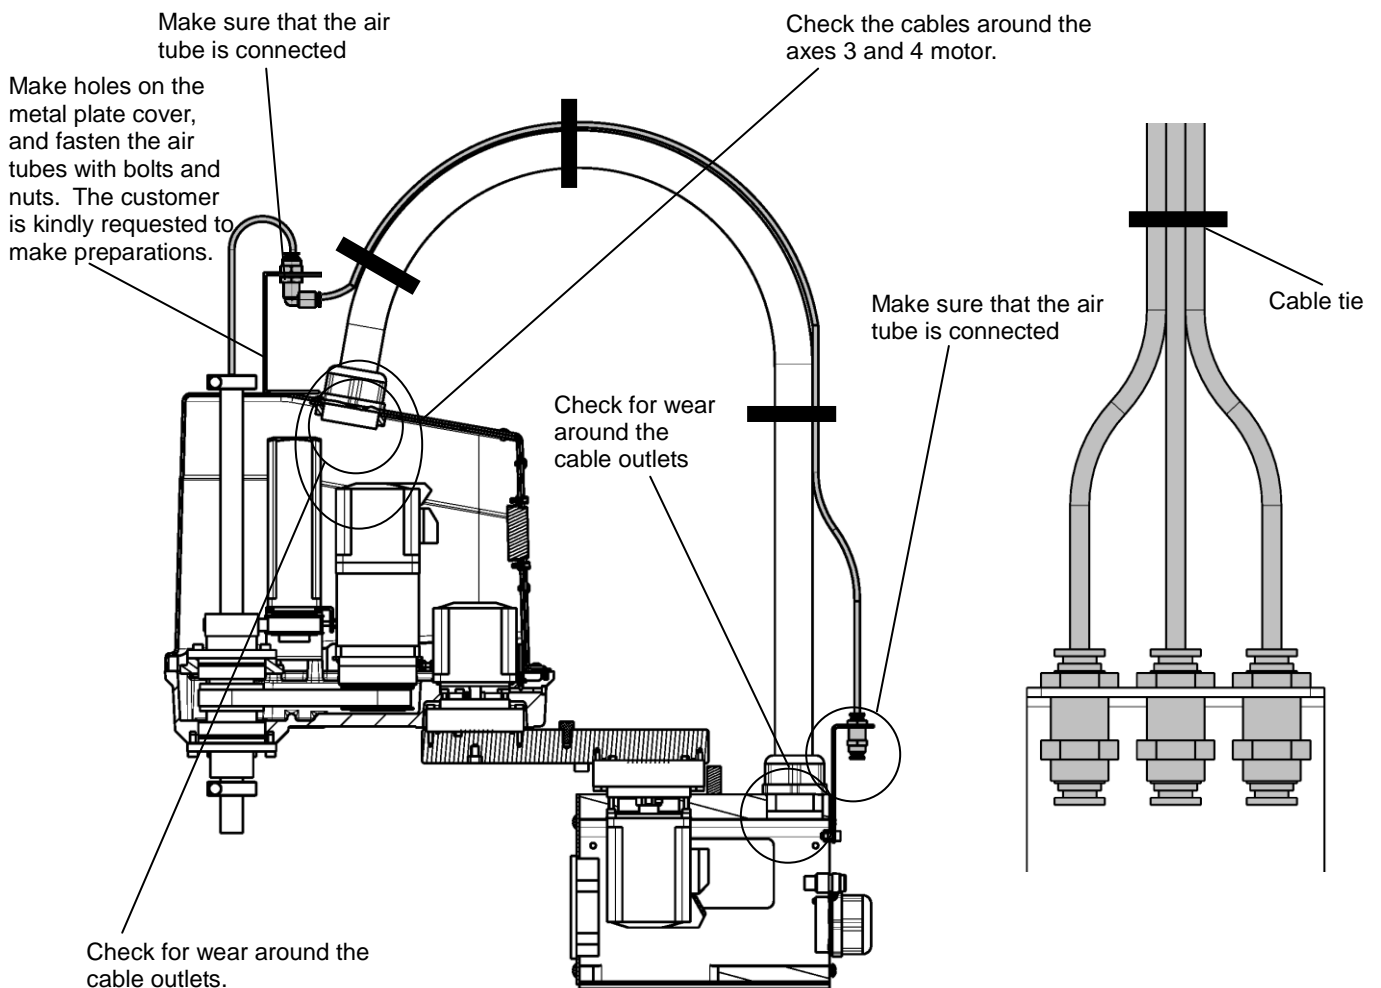

Fig. 2.3 Cable inspection locations (THL300, THL400)
- Please note that Fig. 2.3 shows a piping example and does not warrant damage to the air tube and its accessories.